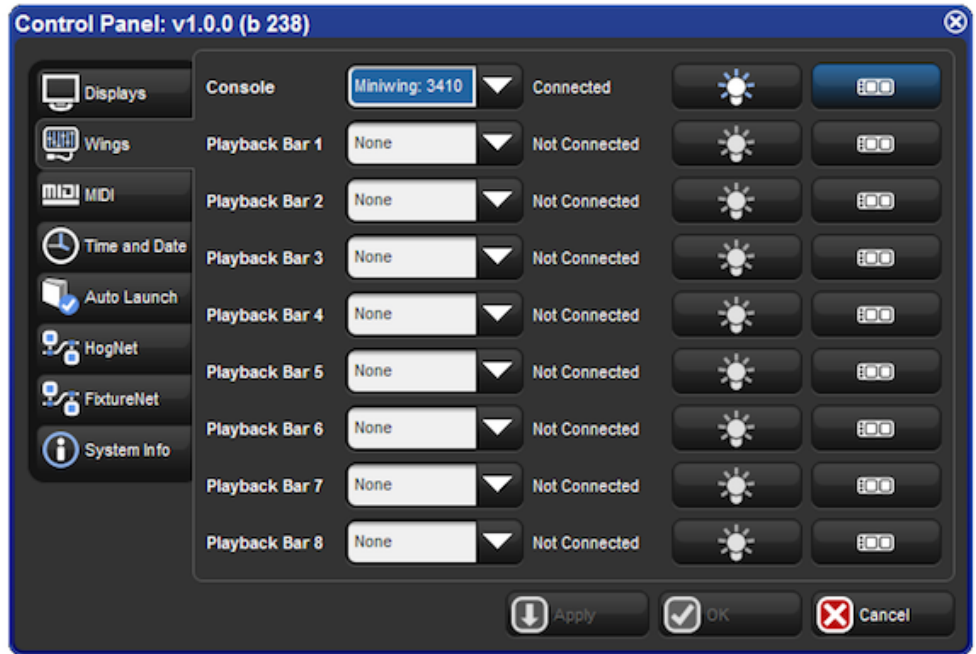

Figure 3.14. The Wings pane of the Control Panel with Playback Wing Mapping
2. Setup → Control Panel → Wings : open the Wings pane of the Control Panel window (see Figure 3.14, "The Wings pane of the Control Panel with Playback Wing Mapping").